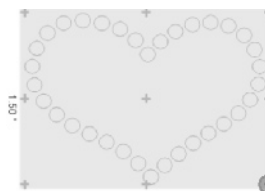

Fig. 13
11. Follow the steps in *Exporting to Edge Cutter* to cut the crystal template design (See Fig. 13)